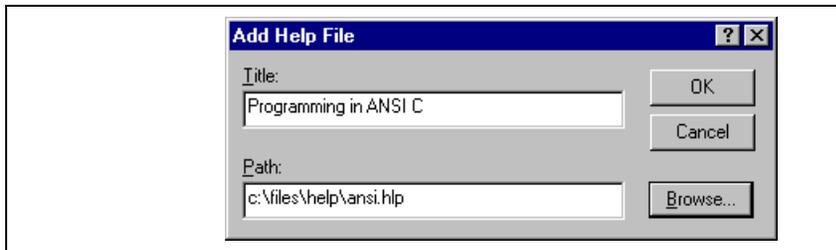

Figure 6.8: Add Help File Dialog
2. Click the “Add...” button. The “Add Help File” dialog will be displayed * MERGEFORMAT figure 6.8).